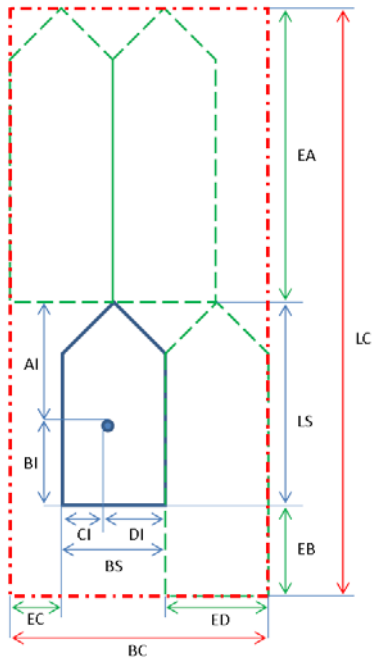

Figure 18: Physical location of GNSS sensor on the ship and in a convoy
- b. Visible if Inland Waterways is enabled, see also Figure 18 on page 23.